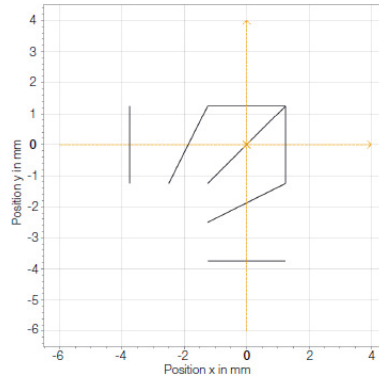

Fig. 7.1: Vectors over a scattering structure
- Use a standard vector length of 10 mm. Note that the main point of the structure (x/y; 0/0) is not symmetrical within the scattering element (see Fig. 7.1).